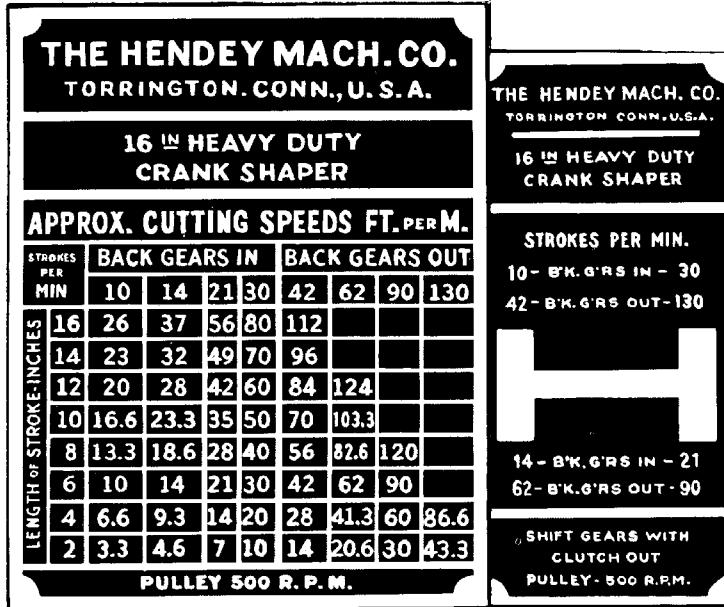
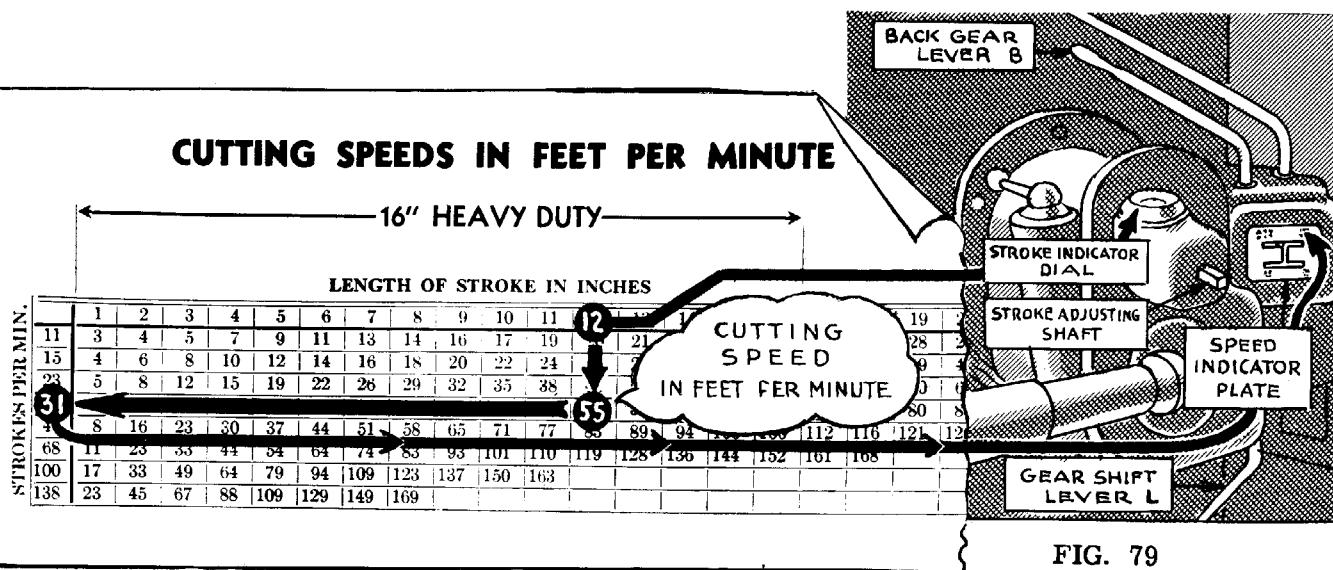

FIG. 76
FIG. 79
1. Examine the speed plate shown in Fig. 76. Note that the factors needed to determine the speed of the shaper have been included on it.
5. Locate in the first column (Fig. 76) on the left side of the speed plate the number which corresponds with the length of the ram stroke as indicated on the stroke-index dial.
NOTE: The cutting speeds which result from various combinations of stroke lengths and ram speeds — two factors which determine the cutting speed of the shaper tool — are frequently supplied on a speed chart attached to the shaper, as shown in Fig. 76. In other cases, the manufacturer supplies a table of cutting speeds in an operator's manual. The table shown in Fig. 79 has been reproduced to use in adjusting the speed of the shaper.
3. Locate in the upper row of the table the number which corresponds with the length of the ram stroke. (Refer to Fig. 79).
If the speed of this shaper is to be adjusted for the same job used in the previous example, proceed as follows and refer to Fig. 79.
2. Find number (12) (which is the length of stroke required) in the upper row in the table of cutting speeds. (Refer to Fig. 79).
3. Move down in the column under number (12) and stop at number (55), since this is the number which comes nearest to the recommended cutting speed of 60 feet per minute for roughing cast iron.
4. Move to the extreme left in the row opposite number (55). Number (31), appearing at the intersection of this row and the left-hand column, indicates the number of ram strokes for which the shaper is to be adjusted to get the approximately correct cutting speed.
5. Shift the speed indicator by means of lever (L) to the slot in the stroke plate under number (31).
6. Shift back-gear lever (B) to its position marked "B".